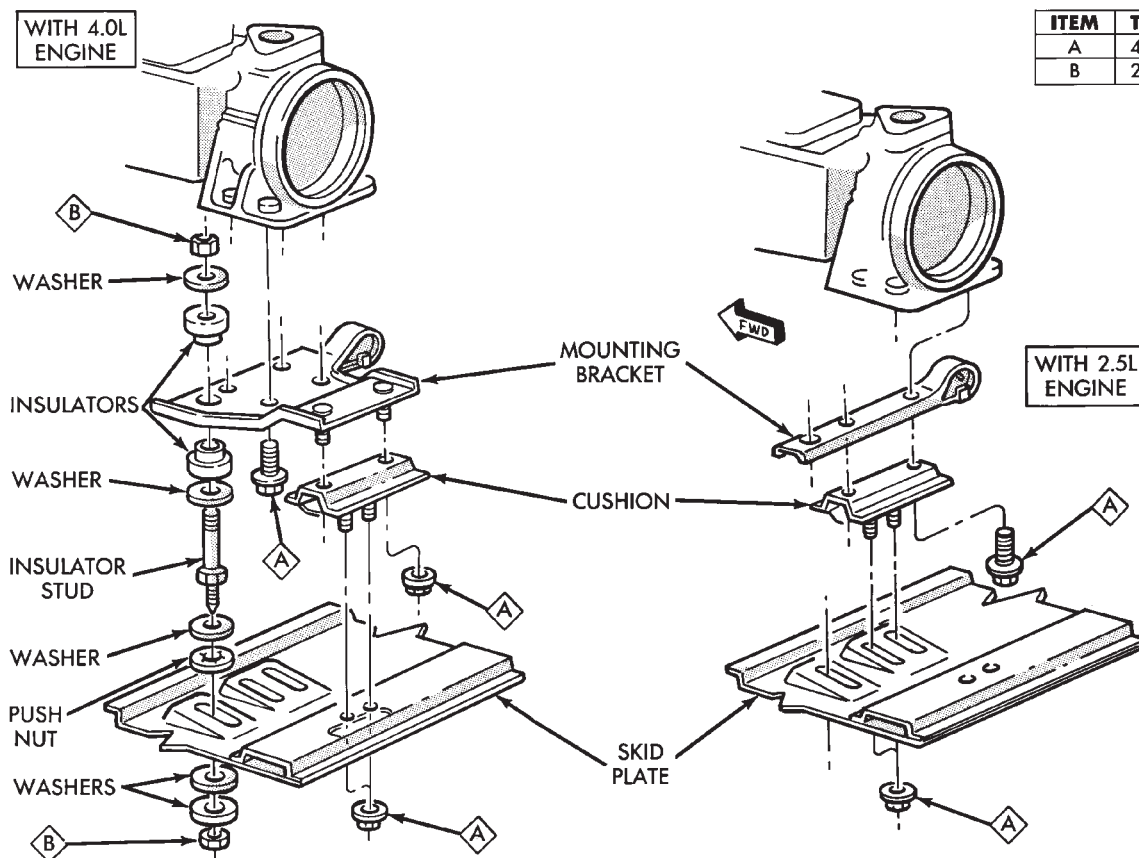

Fig. 5 Rear Mount Components (YJ Shown)
- (1) Shift transmission into first or third gear. Then raise vehicle on hoist.
- (2) Support engine with adjustable jack stand. Be sure to position wood block between jack and oil pan.
- (3) Disconnect necessary exhaust system components.
- (4) Disconnect rear cushion and bracket from transmission (Fig. 5). Then remove skid plate, or rear crossmember.
- (5) Disconnect transfer case shift linkage, vehicle speed sensor wires, and vent hose.
- (9) Install slave cylinder in clutch housing.
- (10) Connect engine timing sensor wires.
- (11) Remove jack from under transmission and mount transfer case on jack.
(12) Align transfer case and transmission shafts and install transfer case. Tighten transfer case-to-transmission nuts/bolts to 35 N·m (26 ft. lbs.) torque.
(13) Remove jack stand from under engine and reposition jack under transmission. Then remove transmission jack.
(14) Connect transfer case vent hose and shift linkage. Check and adjust linkage if necessary.
(15) Connect transmission and transfer case vent hoses.
(16) Connect backup light switch wires.
(17) Connect vehicle speed sensor wires.
(18) Install and connect crankshaft position sensor if equipped.
(19) Install rear crossmember, or skid plate (Fig. 5). On XJ, tighten crossmember-to-frame bolts to 41 N·m (31 ft. lbs.) torque. Then tighten transmission-to-rear support bolts/nuts to 45 N·m (33 ft. lbs.) torque. On YJ, tighten bolts/nuts to indicated torque (Fig. 5).
(20) Align and install front/rear propeller shafts. Tighten shaft U-joint clamp bolts to 19 N·m (170 in. lbs.) torque.
(21) On XJ, install skid plate, if removed. Tighten bolts to 42 N·m (31 ft. lbs.) torque. Tighten stud nuts to 17 N·m (150 in. lbs.) torque.
(22) Top off transmission and transfer case lubricant levels.
(23) Lower vehicle.